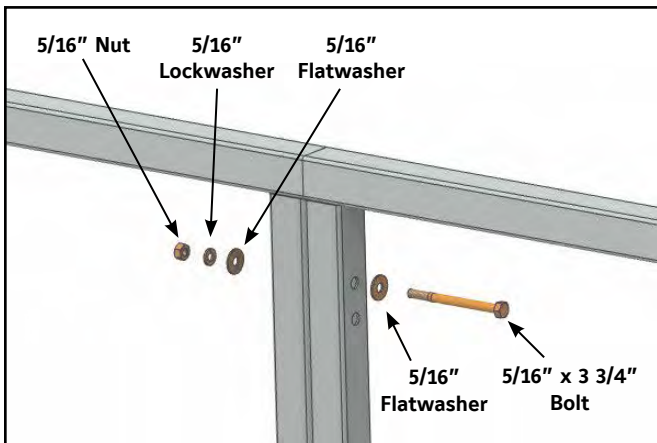

Figure 33 – Top Perimeter Guardrail Segment Attachment
2. Secure adjacent rail segments to each other using the 5/16" x 3 3/4" bolts provided. See Figure 33.